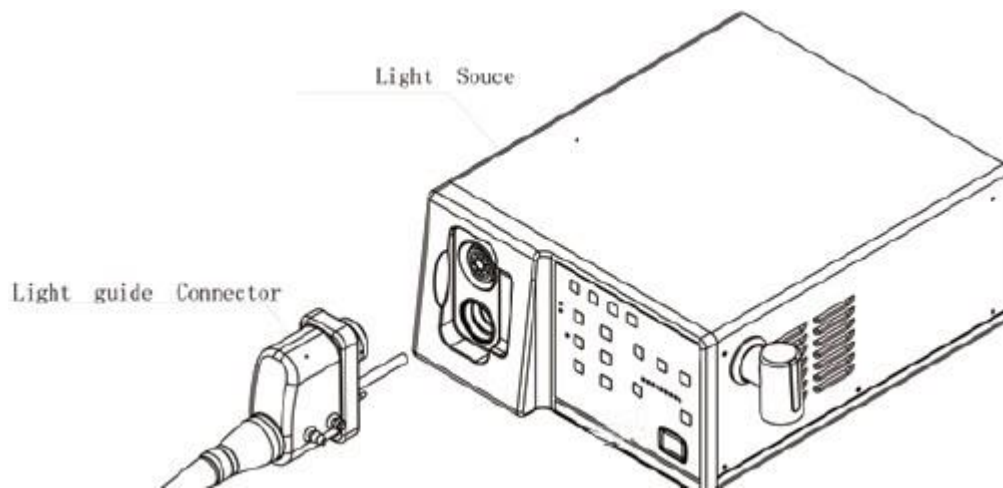

Figure 5.1
2. Confirm that the light guide connector is connected to the scope socket of the video system center. (as shown in Figure 5.1)